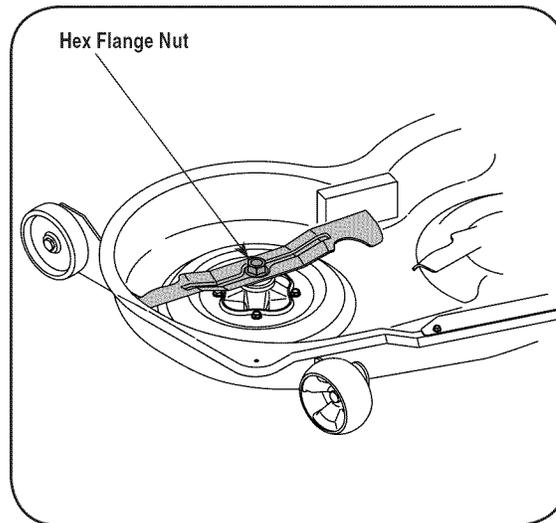

Figure 6-4
2. Place a block of wood between the center deck housing baffle and the cutting blade to act as a stabilizer. See Fig. 6-4.
3. Remove the hex flange nut that secures the blade to the spindle assembly. See Fig. 6-4.